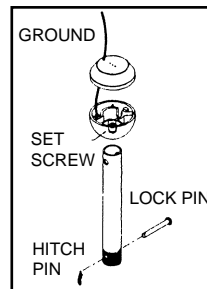

Fig.7
**Step 3.** Remove downrod hanger ball by loosening set screw, removing the cross pin, and sliding ball off rod. Remove the hitch pin and lock pin. (Fig. 7)